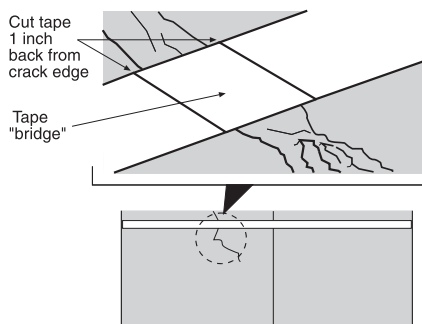

Figure 19
**Note:** If there is a crack in the road that causes the tape to bridge, lay the tape over the crack, tamp the tape, and then cut the tape one inch from each side of the crack. (See Figure 19.)